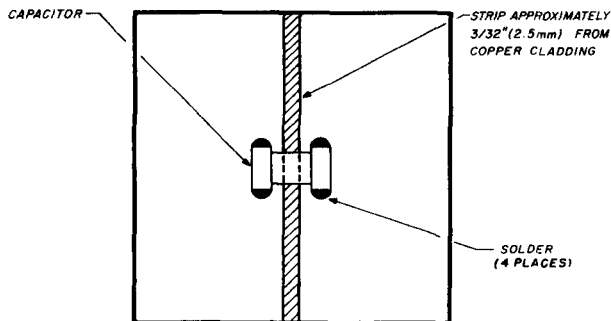

fig. 1. Leadless mica capacitor soldered onto copper-clad circuit board material minimizes series lead inductance.
fig. 1. Cost efficiency obtained when increasing power-amplifier output. Best cost efficiency, in terms of costs of energy, components, insurance, space, and weight of the linear amplifier, occurs when amplifier output is about three times that of the exciter. In other words, $P_2 = 3P_1$ where P_2 and P_1 are the amplifier output and input power respectively.
where costs increase proportionally to power level. Fig. 1 shows that the cost efficiency curve rises, levels off, and falls as a function of amplifier power. This is because of (a) the increasing costs that accompany an increase in power, and (b) the progressively smaller *incremental* increases in dB. Each additional dollar spent in power increases results in smaller and smaller signal increases. At some point the dB increase becomes insignificant but the costs continue to rise, resulting in reduced efficiency (for $P_1 = 100$ watts):
An examination of fig. 1 shows that optimal cost efficiency occurs when the linear amplifier output is approximately *three times* that of the exciter. Because we're speaking of the ratio of two power levels, optimal amplification of three times exciter input is true for all power levels.
1. Prepare one side of a small piece of double-sided copper-clad board as shown in **fig. 1**.